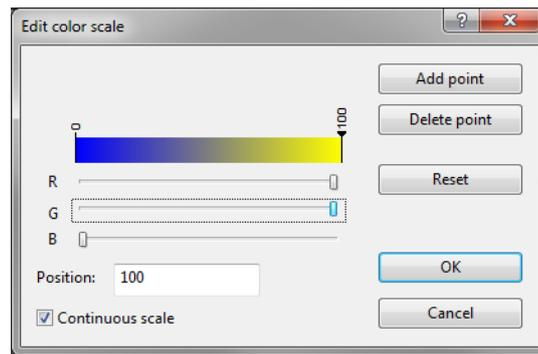

Figure 3: Yellow color.
12. Click on the right-most point on the color scale. It is now marked with a black triangle. Adjust the red, green and blue components individually until you have obtained the yellow color (see Figure 3).